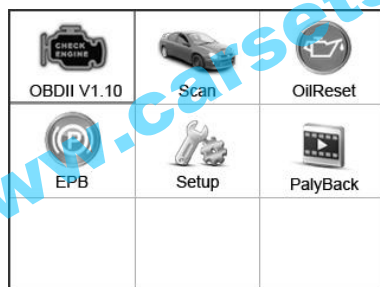
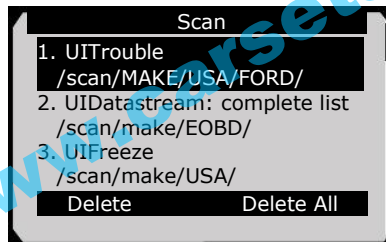

Figure 3.1
Figure 4.1
- 4) Power up the scan tool , and wait for the **Main Screen** to appear.(Figure 3.1)
- 1) Use the **LEFT/RIGHT** scroll button to select **Playback** from **Main Screen** (Figure 3.1), and press the **OK** button. Wait for the **Scan** screen to appear. (Figure 4.1)